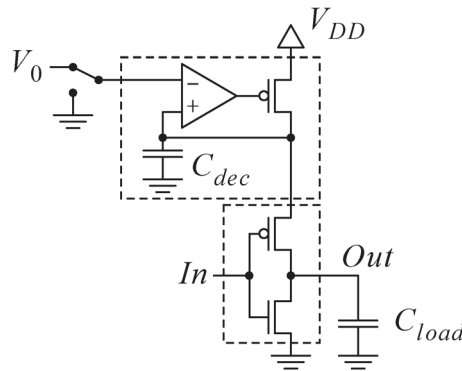

Figure 3. Inverter with local power supply.
In the lower dashed box in Figure 3 an inverter driving a capacitive output load is shown. In the upper dashed box a power supply voltage regulator, consisting of a PMOS transistor and a comparator, is shown. The capacitor  $C_{dec}$  is large and it is used to stabilize the local power supply voltage. The transition activity of the input signal  $In$  is  $\alpha$ . When the circuit is not used the local power supply voltage can be turned off by grounding the reference voltage of the voltage regulator (see Figure 3).
- Determine the dynamic power consumption due to the capacitive output load  $C_{load}$ . Compare your result with the case where the inverter in Figure 3 is directly connected to the power supply  $V_{DD}$  (i.e. the global power supply is used instead of a local power supply).